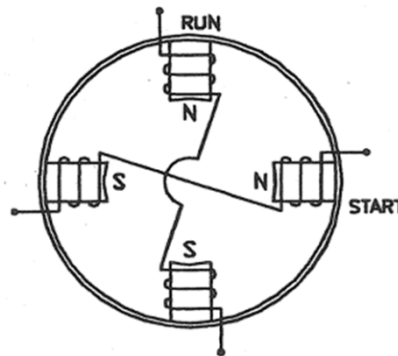

Figure 6 - Magnetic poles on the stator at a given instant.
15. The coil groups in each winding are connected so that magnetic poles will be formed on the stator. The polarity of the poles changes for every half cycle of the input voltage and the polarity of the run winding poles in relation to the start winding poles will depend on the direction of current at that instant. Figure 6 shows a simplified representation of typical relative polarities of the poles in a 2 pole stator at a given instant.